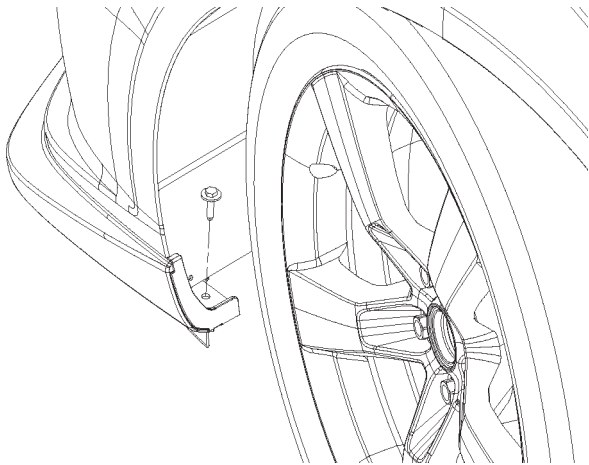

FIGURE 40
17. Insert screw into location of U nut in wheel well. 1 per side. Torque to 6 ft-lb. (8.13 N.m). Refer to figure 40.